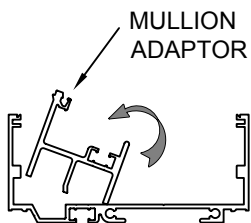

FIGURE 1
- STEP A:** Snap mullion adaptors into head and sill receptors. (Figure 1)